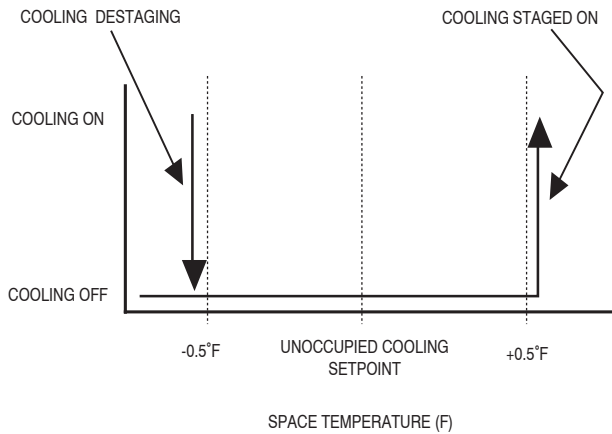

FIG. 28 – VAV UNOCCUPIED COOLING TEMPERATURE CONTROL
- Cooling is called for according to the algorithm illustrated in Figure 28.